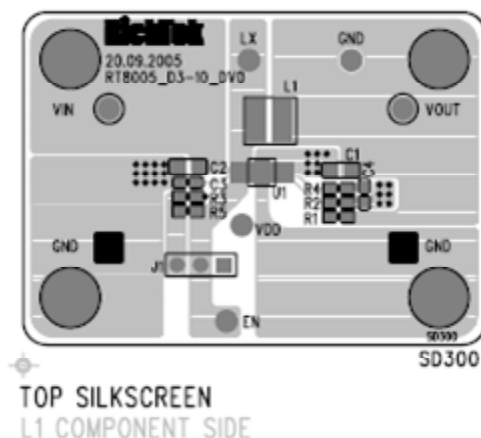

Figure 2. Top Layer
6. An example of 2-layer PCB layout is shown in Figure 2 to Figure 3 for reference.